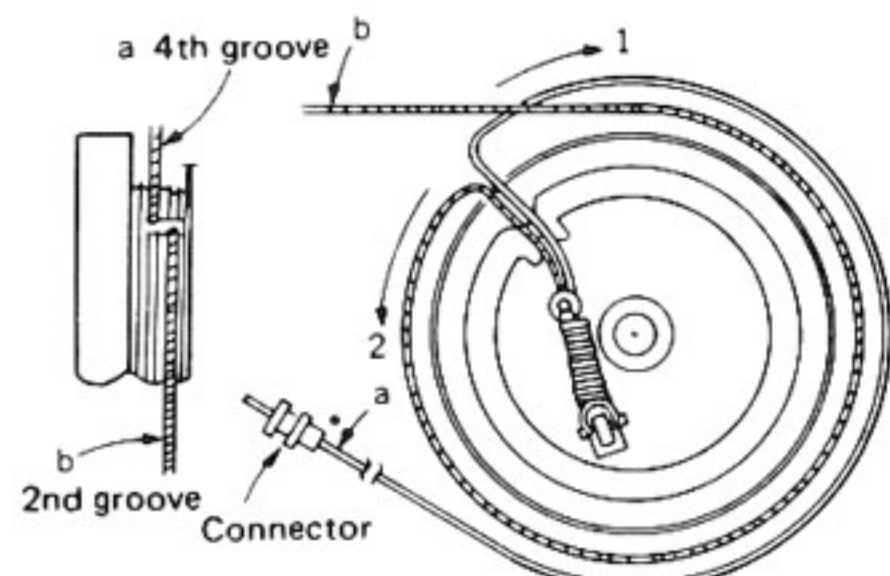

Fig. 16
4. Turn over the arm drive wheel and set the rope in the order of 1 ~ 2. (Fig. 16)